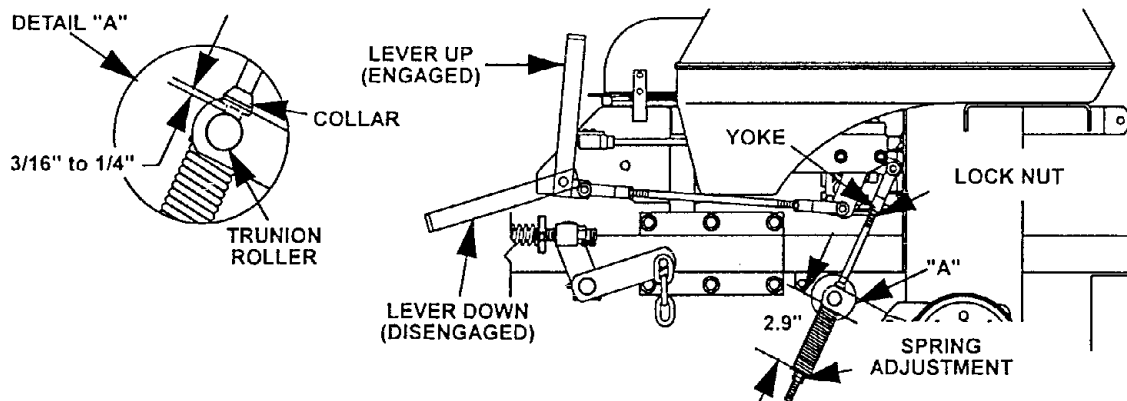

FIG. 10
- b) Measure the length of the spring. Measurement should be 2.9" between washers (see Fig 10).
- e) Measure the distance between the trunion roller and the collar (welded to rod). Measurement should be 3/16" to 1/4" (See Fig 10).
- f) If adjustment is necessary, loosen the nut directly below the yoke. Turn the bottom nut (below washer) until the correct measurement is obtained (See Fig 10)